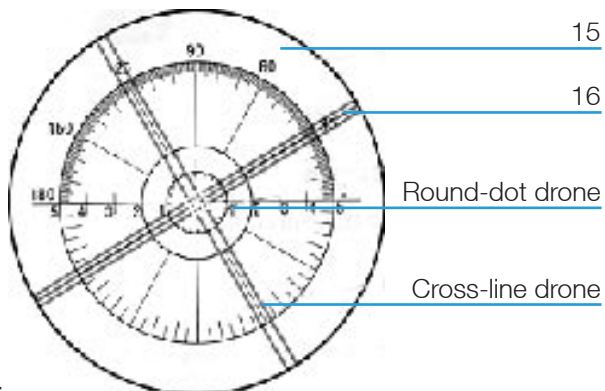

Fig. 4
4.2 Drone and Eyepiece Dividing Plate (Fig.4)